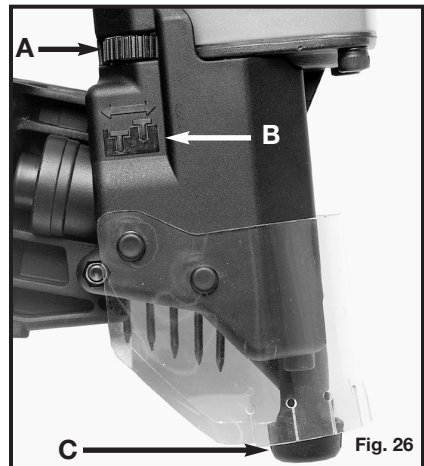

Fig. 26
The depth that a fastener is driven is controlled by the adjustable thumb wheel depth selector (A) Fig. 26. Test fire a fastener and check depth. If a change is desired, rotate the thumb wheel (A) to the left to the next detent position to lower the depth or to the right to raise the depth. See pictogram shown in (B) Fig. 26. Test fire another fastener and check depth. Repeat as necessary to achieve desired results. The amount of air pressure required will vary depending on the size of the fastener and the material being fastened. Experiment with the air pressure setting to determine the lowest setting that will consistently perform the job at hand. Excess air pressure can cause premature wear and/or damage to the tool.
A rubber nose cushion (C) Fig. 26, is provided to reduce marring of the work surface. The rubber cushion can be pulled off to provide increased depth-of-drive for toe-nailing applications. The nose cushion can be stored in the rear area of the magazine (A) Fig. 27, when not in use.